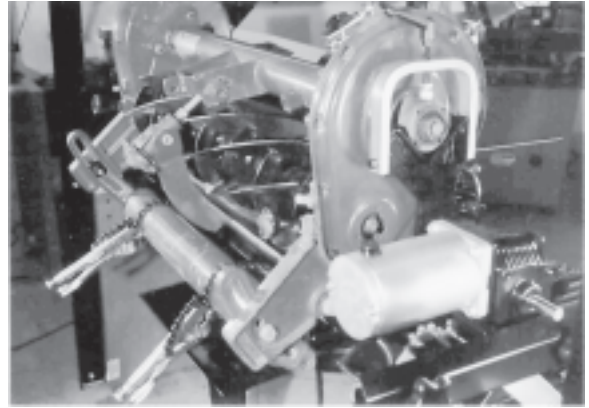

FIG. 15
- A. On fairway mowers with exposed hubs, you will use the "V" reel hub supports. Normally they will be positioned in the top two holes of the lower supports with the offset "V" facing the rear of the machine. See FIG. 15.